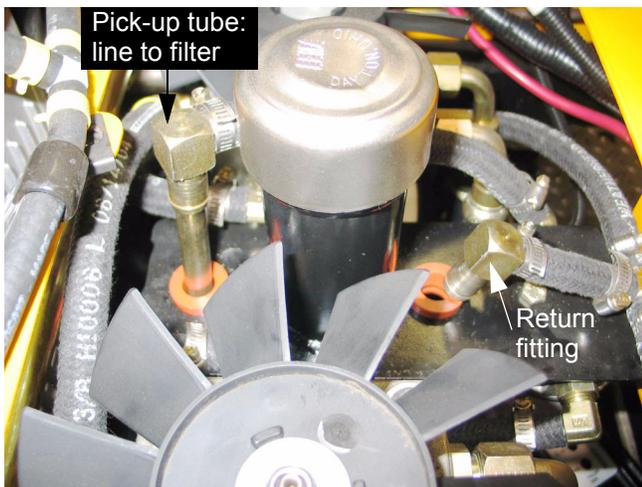

Figure 23.3
23.3. Removing the hydro service plate using a 7/16" wrench provides access to the reservoir and the hoses that connect to it. See Figure 23.3.